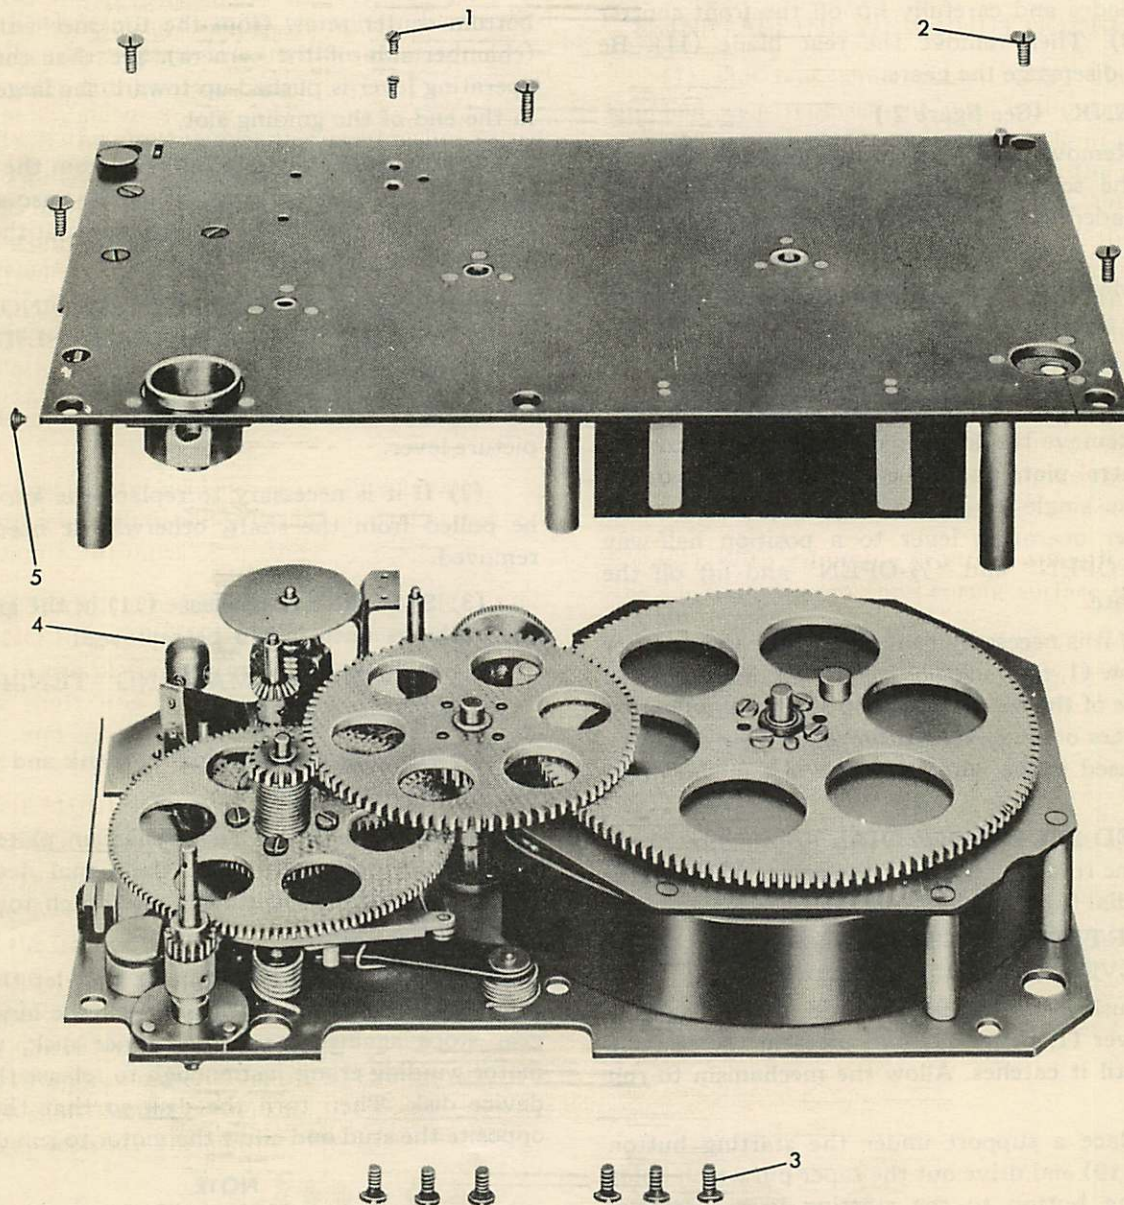

Figure 21—Separating Mechanism Plates
(See figure 21.)
n. SEPARATING MECHANISM PLATES. (See figure 21.)
(1) Remove the two small screws (1) from the top mechanism plate to detach the stop lever bracket.
(2) Remove the screw (5) from the starting lever link.
(3) Remove the six screws (3, figure 21) from the